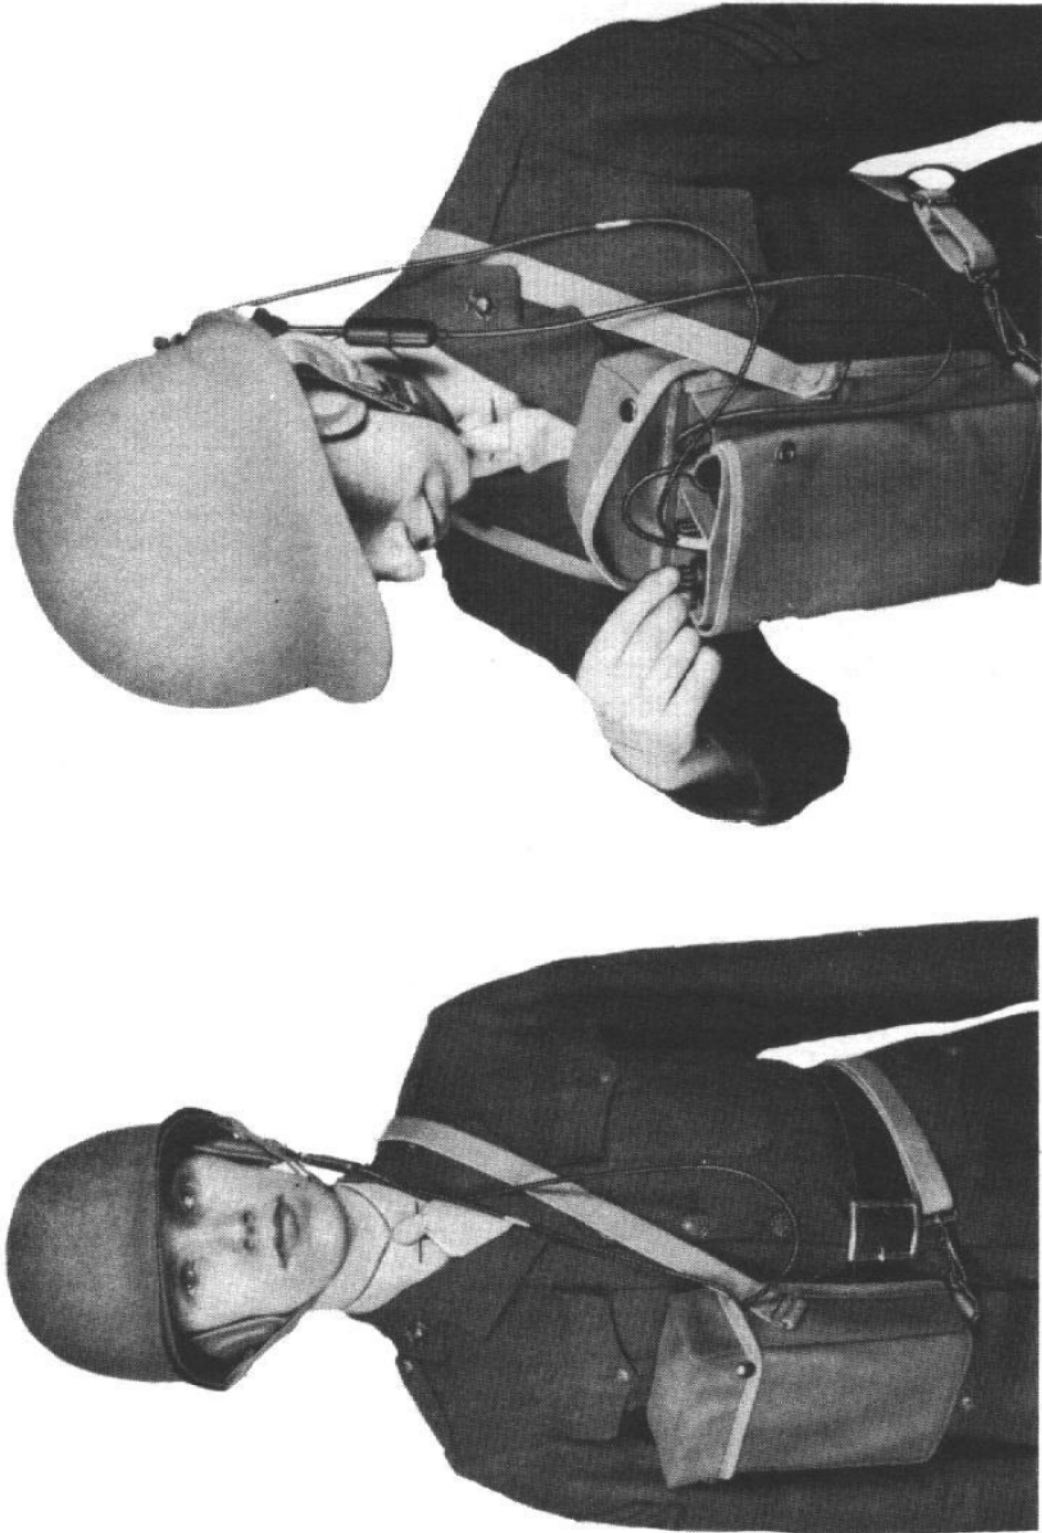

Figure 1—Model RBZ Radio Receiving Equipment (in use)
- (a) Place the Radio Receiver and Battery Power Unit in the Carrying Case and wear as shown in Figure 1.